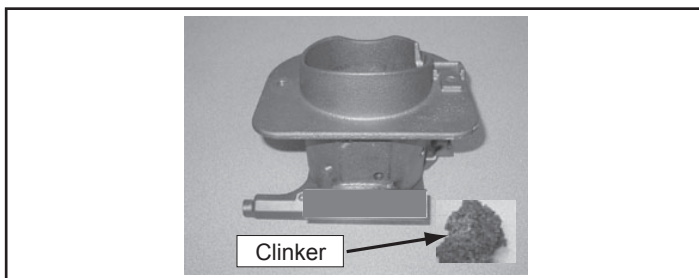

Figure 17.1 - Fire pot with large clinker
- It may be necessary to use your fire pot clean-out tool to chip away material that has built up on the sides of the fire pot and to push out any clinkers. **Figure 17.1**